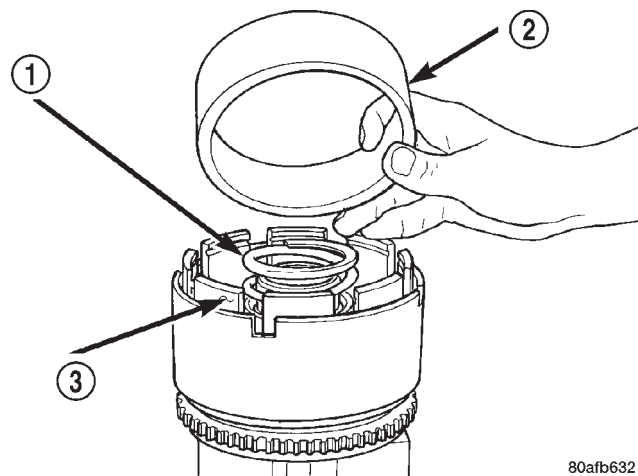

Fig. 262 Seal Compressor Special Tool 5067
- (8) Install UD piston return spring and Tool 5067 as shown in (Fig. 262).